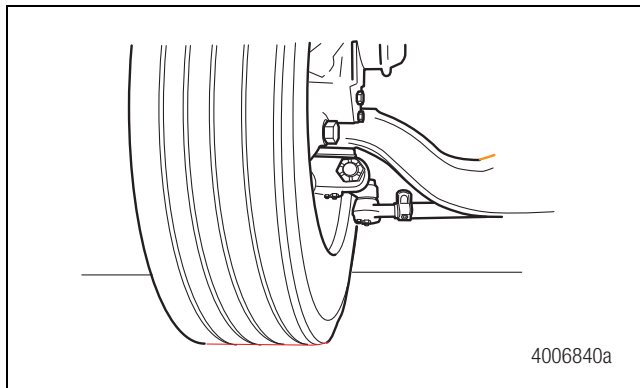

Figure 5.17
2. Verify that the tires touch the ground. Do not raise the vehicle. The full weight of the vehicle must be on the axle assembly. Figure 5.17.